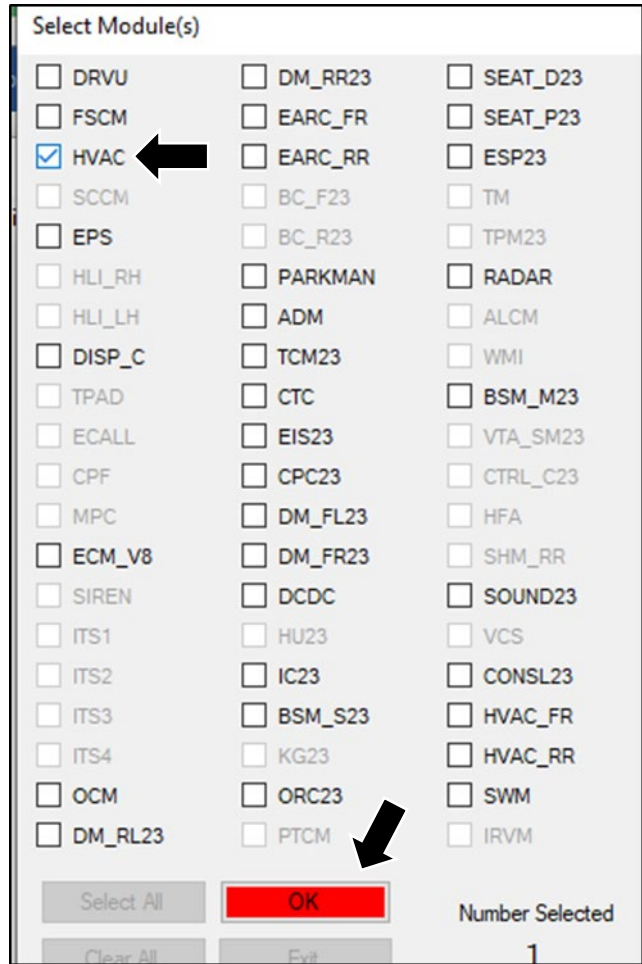

Figure 2
- 5. Select the "HVAC" module then click "OK" (refer to Figure 2).